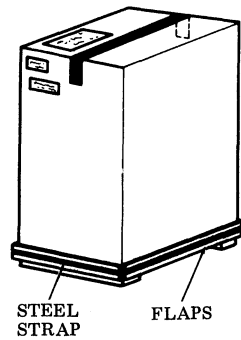

Fig. 11—Forms Access Printer Cabinet Carton
- 3.12 Remove steel strap from bottom of carton. Fold carton flaps outward (Fig. 11).